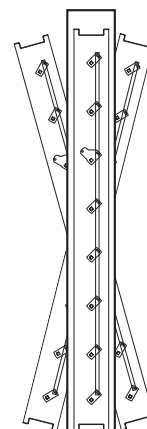

Figure 1
- 1) Dampers ordered with "nominal" sizing are undersized $\frac{1}{4}$ in. (6 mm) to facilitate ease of installation. For example, a 12 in. x 12 in. (305 mm x 305 mm) nominal damper will measure $11\frac{3}{4}$ in. x $11\frac{3}{4}$ in. (298 mm x 298 mm). Dampers ordered with "actual" sizing are not undersized. The duct or barrier opening that the damper is being mounted in should be $\frac{1}{4}$ in. (6 mm) larger than the damper dimensions in both width and height. The opening should also be straight and level (**Figure 1**).